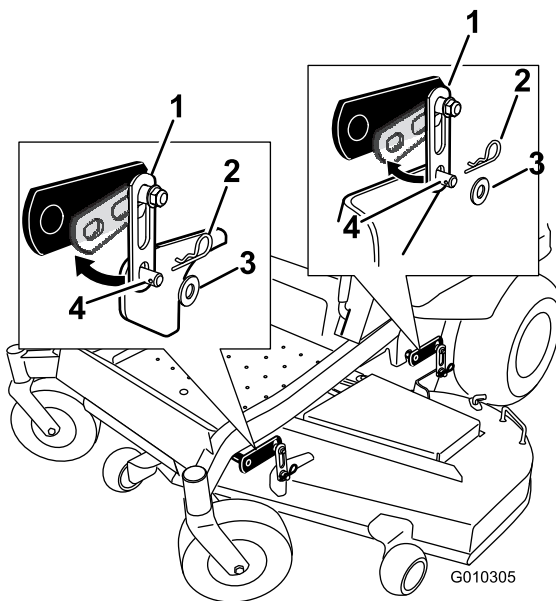

Figure 63
2. Remove the hardware from the front and rear deck hangers on both sides of the deck (Figure 63).
5. Lift the rear of the mower deck and attach the rear support on the mower deck to the rear deck hangers. Secure them with a clevis pin and hairpin cotter (Figure 63).